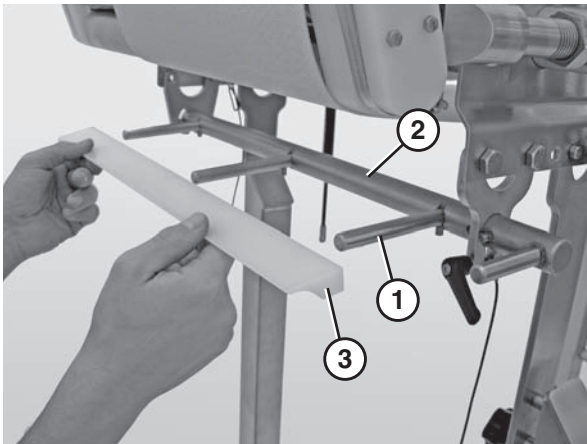

Figure 12
4. Attach the scraper bar holders (Figure 12, item 1) to the scraper shaft (Figure 12, item 2).
5. Attach the UWHM scraper (Figure 12, item 3) to the scraper bar holders (Figure 12, item 1).